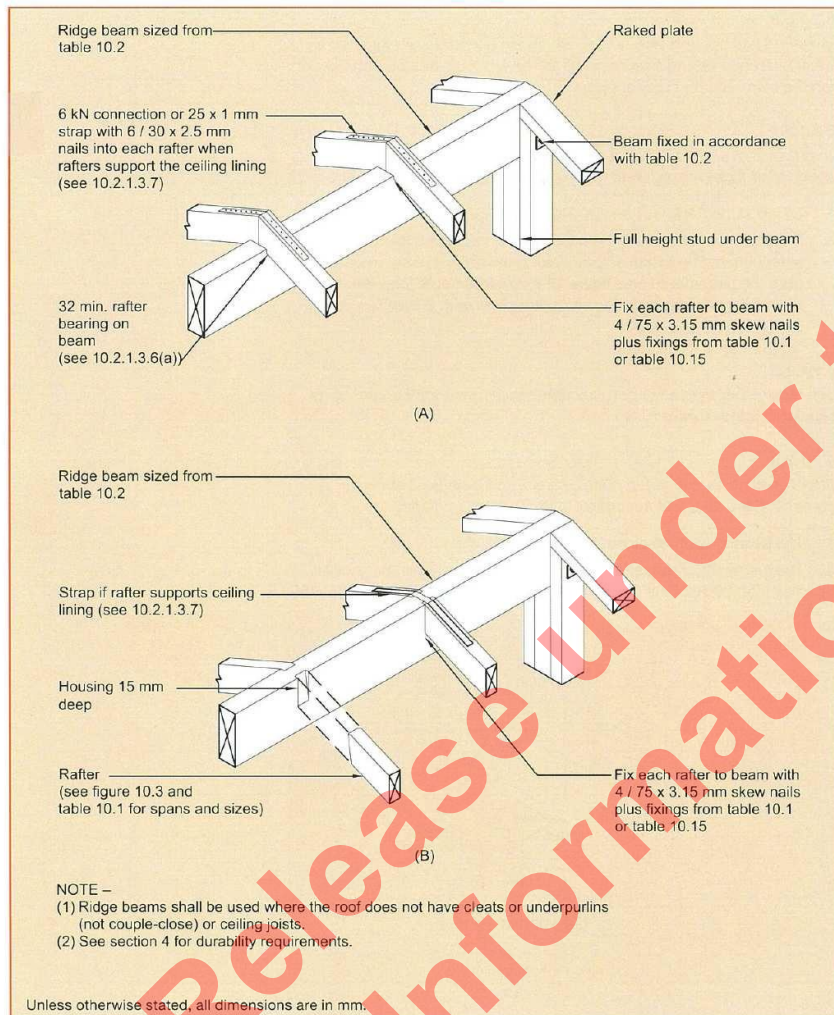

Figure 10.5 – Rafter to ridge beam connections (see 10.2.1.3.6)
- **Top of rafter flush with ridge board/beam:** Install one Lumberlok Sheet Brace Strap SBS3100 (300mm long) with six 30 x 3.15mm nails into each rafter (refer figure 10.5 (B) NZS 3604: 2011 below):
- To corresponding rafters: As shown in figures 10.5 or 10.7.